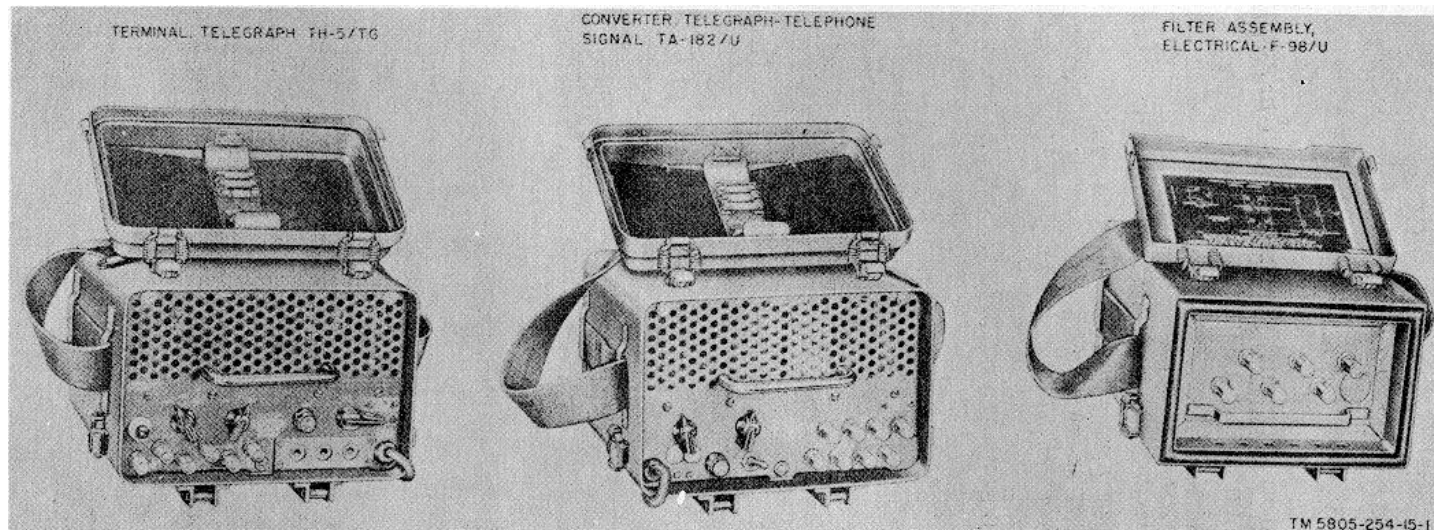
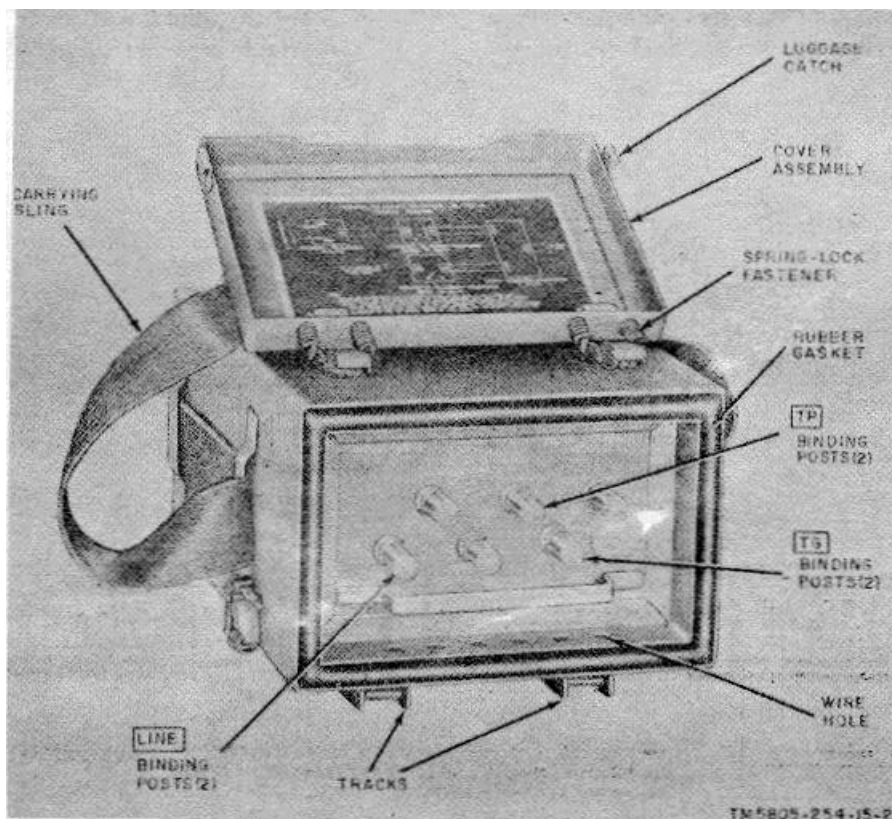

Figure 1. Terminal, Telegraph-Telephone AN/TCC-14, less running spares.
Figure 2. Filter Assembly, Electrical F-98/U
a. This manual describes Terminal, Telegraph-Telephone AN/TCC-14 (fig. 1) and covers its system applications and use. The manual also includes description, operation, theory, and maintenance of Filter Assembly, Electrical F-98/U (fig. 2). Publications with detailed information for Terminal, Telegraph TH-5/TG and Converter, Telegraph-Telephone Signal TA-182/U are listed in the appendix.
a. *Components.* The components of Terminal, Telegraph-Telephone AN/TCC-14 (fig. 1) with dimensions and weight are listed in the following table.
(fig. 1)